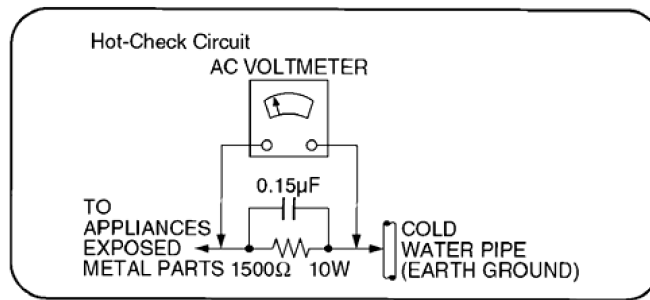

Figure 1
4.1.2. Leakage Current Hot Check (See Figure 1)
2. Connect a 1.5k Ω , 10 watts resistor, in parallel with a 0.15 μ F capacitor, between each exposed metallic part on the set and a good earth ground such as a water pipe, as shown in Figure 1.